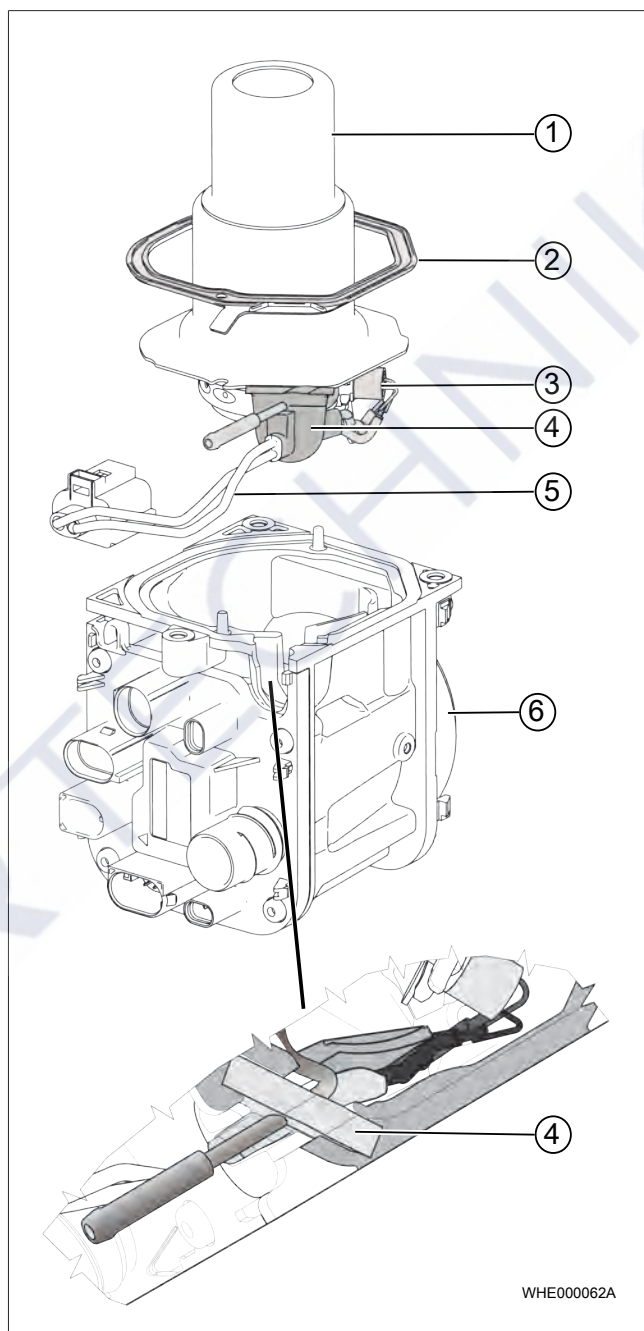

Fig. 15 Burner unit and combustion air fan unit
3. Remove seal (see Fig. 15).
1. Pre-position burner unit with bush in the combustion air fan unit. On assembly, ensure that the glow plug cable and the bush are inserted in the guide provided and the groove of the combustion air blower unit (see Fig. 15). Push the bush into the groove provided until it completely fills the installation space.